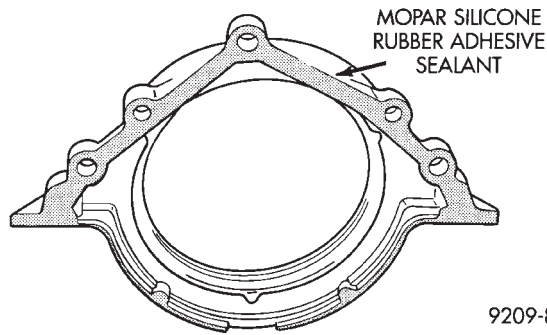

Fig. 13 Apply Sealant to Oil Seal Housing
(2) Apply (Mopar Silicone Rubber Adhesive Sealant or equivalent) to oil seal housing (Fig. 13) per procedure detailed in form-in-place gasket section in Standard Service Procedures.
(3) Apply light coating of engine oil to the entire circumference of oil seal lip.